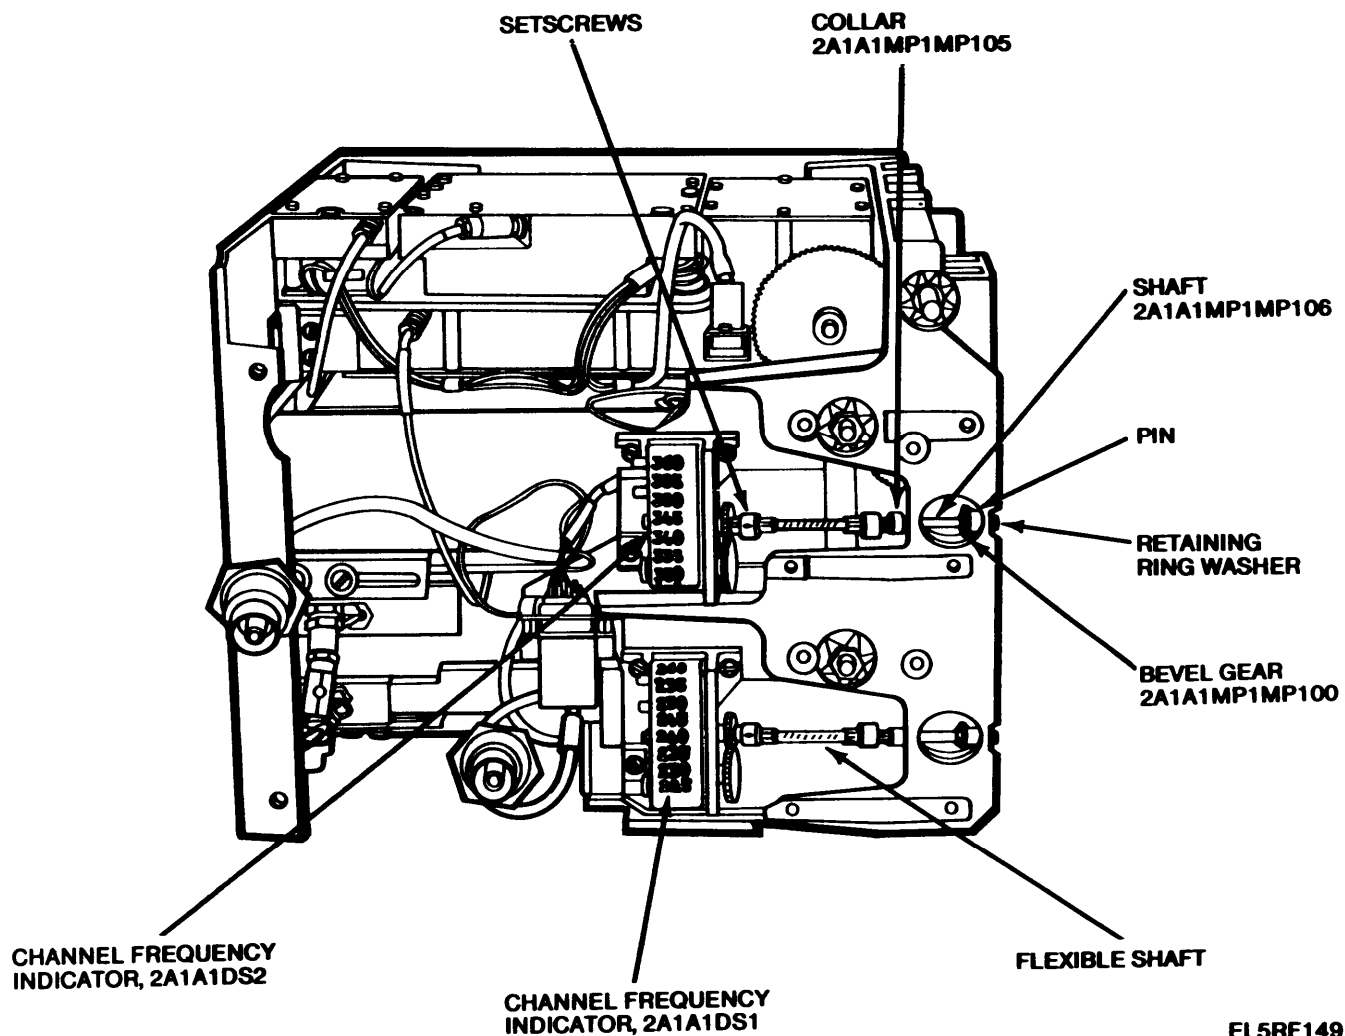

Figure 2-6. Receiver Rf Head Front View With Front Panel Removed AM-4316A/GRC-103(V).
a. Removal and Replacement Procedure (fig. 2-6).
(1) Remove control panel 2A1MP2 as described in paragraph 2-26.
(2) Remove the three red-circled mounting screws that secure the defective channel frequency indicator to the chassis.
(3) Grasp the channel frequency indicator and slide it sideways to disengage the flexible shaft from the coupling shaft.